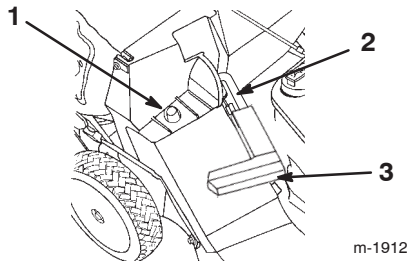

Figure 13
2. Ensure that the discharge door handle is fully forward and that the pin is engaged in the catch (Fig. 13).
3. Slide the hole in the bag frame onto the retaining post on the discharge tunnel (Fig. 13).
2. Raise the discharge door handle and move it forward to engage the pin with the catch (Fig. 13).